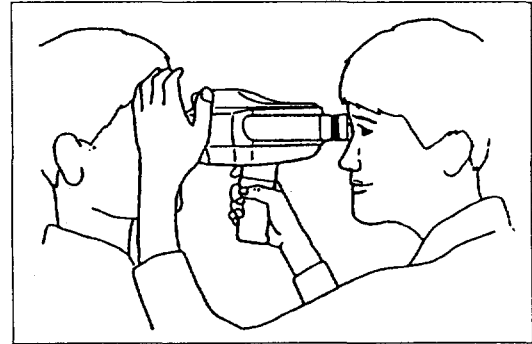

Figure 6-8
- Working distance: Touch the forehead rest on the patient's forehead. See the center dot is focused. If not focused push the forehead rest slowly. The working distance is about 40mm. Placing your other hand as shown in Figure 6-8 on the patient's head will stabilize the measurement procedure.
You can position the equipment in the front and rear directions more easily by placing your thumb at the groove on the cover (see Figure 6-8).